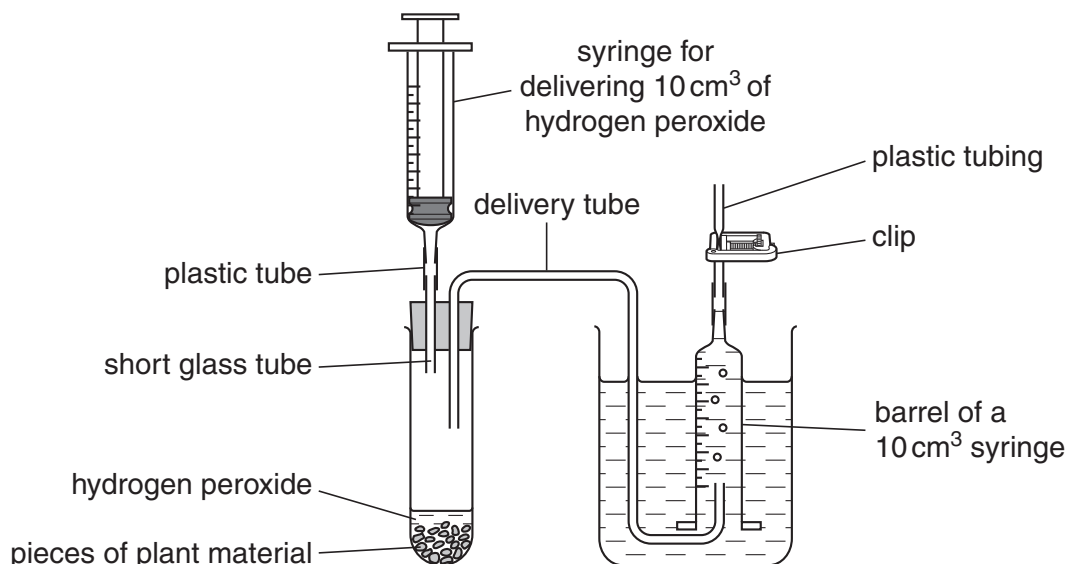

Fig. 1.1
- (v) Two-hole bung (No. 21) with delivery tube and short glass tube to fit the boiling tubes, as shown in Fig. 1.1. There should be spares available.
- (vi) A barrel from a 10 cm³ syringe with plastic tubing attached to the nozzle and sealed with a suitable clip (e.g. Hoffman clip), as shown in Fig. 1.1.
- (vii) 400 or 600 cm³ beaker (or other suitable clear container), three-quarters filled with tap water for the delivery tube, as shown in Fig. 1.1.
The apparatus shown in Fig. 1.1 may be set up as a demonstration using tap water in place of hydrogen peroxide solution.